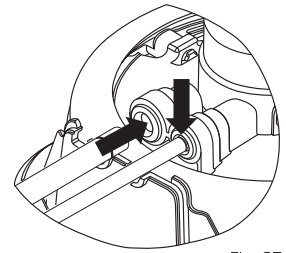

Fig. 27
8. Insert the RED tube from the Pressure Regulator Assembly into the large port on the Bracket. Insert the end of the BLUE tube marked at 5/8" (15 mm) into the small port on the Bracket (Fig. 27).